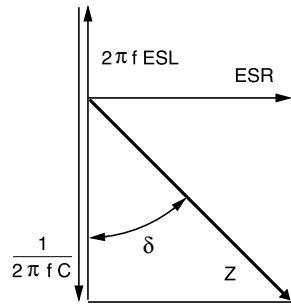

Fig.12 Vector diagram showing the AC parameters of a capacitor.
The impedance (Z) of an aluminum capacitor is given by capacitance, ESR and ESL in accordance with the following equation (see Fig.12):